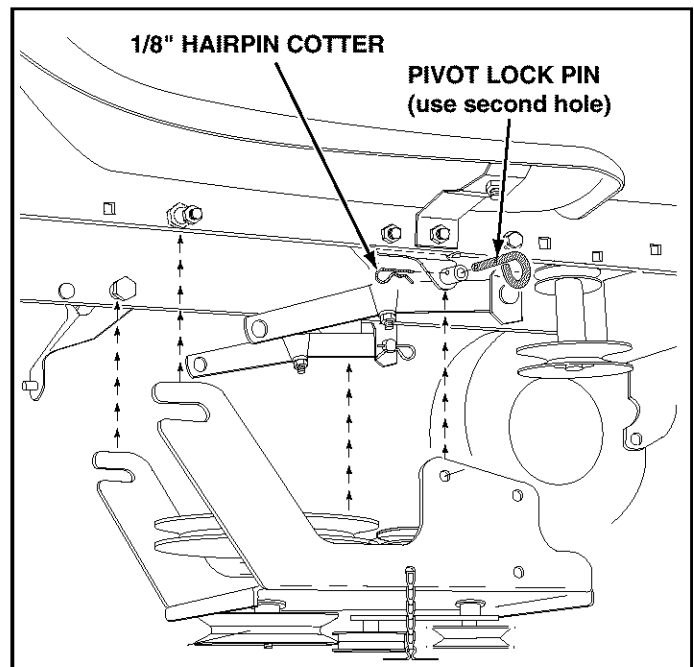

FIGURE 13
- Attach the clutch/idler assembly to the tractor frame as follows. Hook the assembly's notched arms onto the two shoulder bolts you assembled to the inside of the tractor frame. Lift the front of the assembly and attach it to the R.H. and L.H. hanger brackets using two pivot lock pins and 1/8" hairpin cotters. See figure 13.